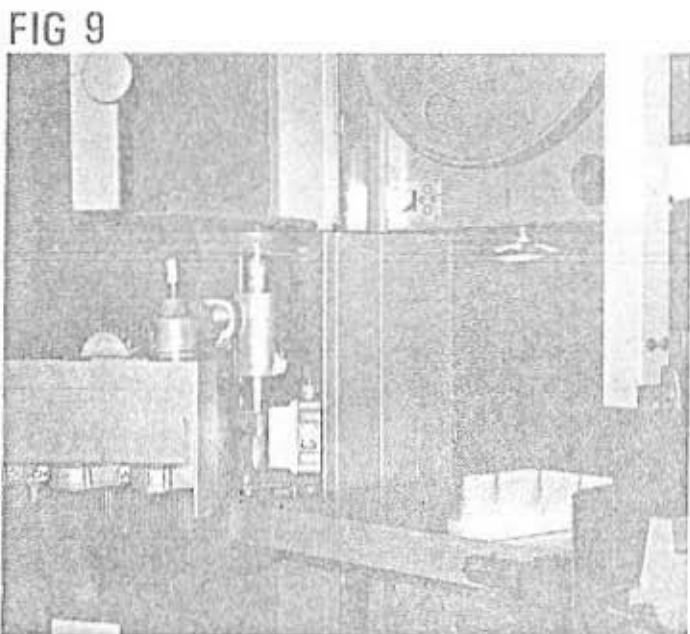

FIG 9
- FIG. 9. Top Door Open To Allow Removal Of Blade